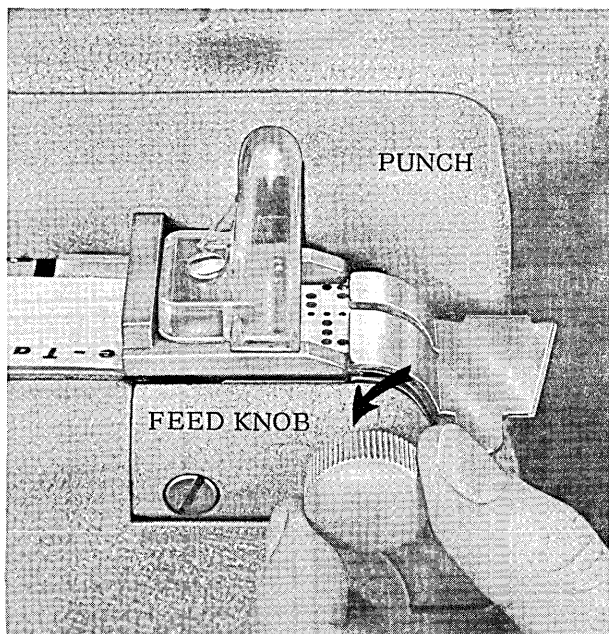

Figure 15. Closeup of Flexowriter Punch.
Overpunching - This method is used to punch special codes, and consists of overpunching one code with another. The tape is turned back in the punch to accomplish this, as illustrated in figure 15.
1. Tape is turned back so that the incorrect code is over the punching station. This is done by using the feed knob (See figure 15). In this case the tape would be turned back one notch for "r", one notch for "e" and one notch for "v".